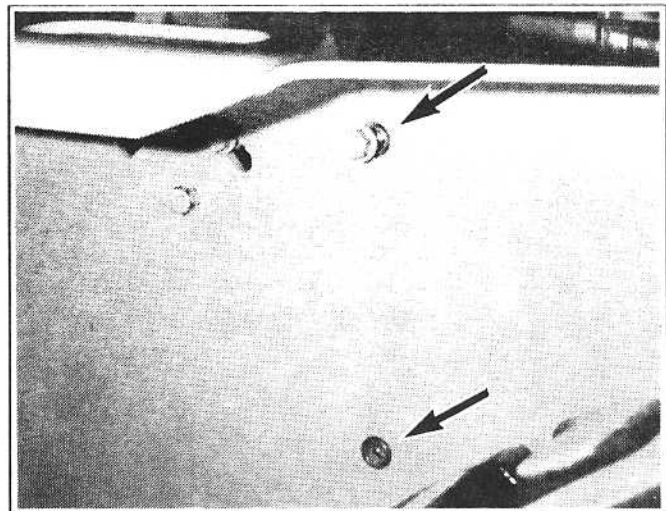

Figure 3-7
Mounting Bolt Locations: 930/940 two (2) on each side at outside of frame through the fender wall. (See figure 3-7)